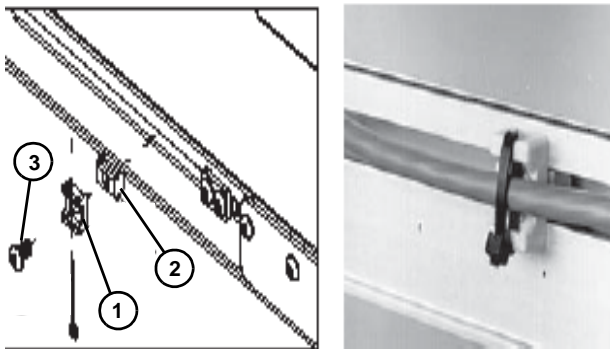

Figure 15
2. To route cable over a previously mounted component or to anchor the cable use the mounting cable ties (Figure 15, item 1) and single drop-in-t-bars (Figure 15, item 2). Secure with screws (Figure 15, item 3).